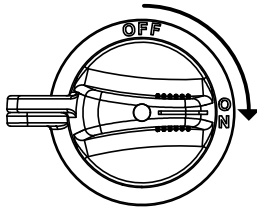

Figure 39. Battery Switch (ON)
3. Place the **Battery switch** (Figure 39) in the **ON** position.